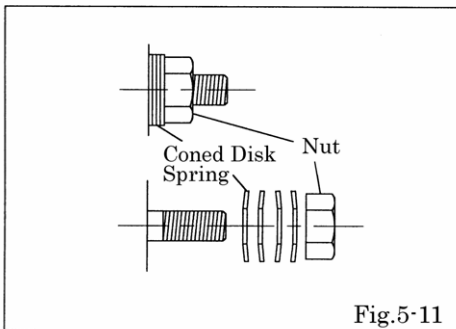

Fig.5-11
- Attach the coned disk spring with making sure of its direction. [Fig.5-11]